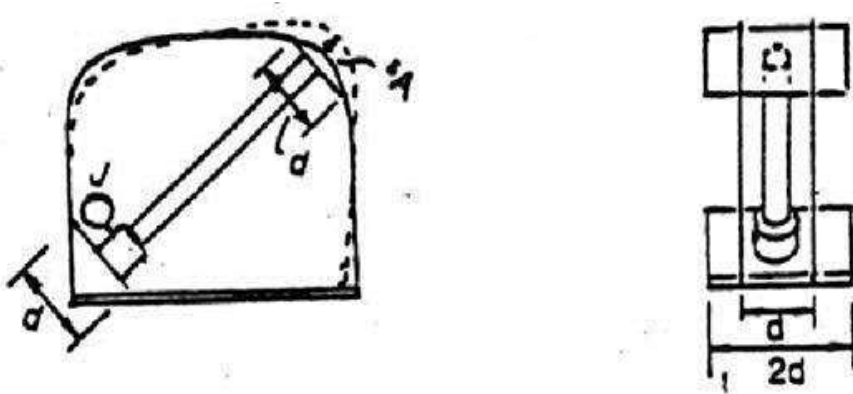

Figure 2: Transverse Cross Section
8.09(d)(1) The racking load shall be applied along a line connecting the most distant points on a transverse cross-section of the bus interior. It produces a shear distortion of the cross-section as shown in Figure 2.
A representative method of loading which employs a hydraulic jack to load a two-frame test assembly is illustrated in Figure 2.